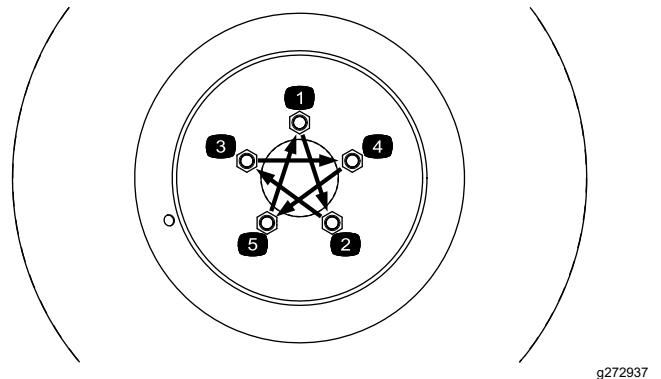

Figure 9
- Reinstall the rear tires and torque the lug nuts to 94 to 122 N·m (70 to 90 ft-lb) in a crossing pattern (Figure 9).